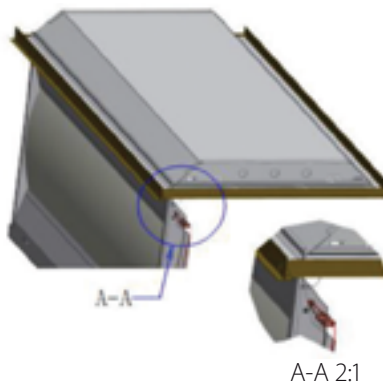

Fig. 1-5
- 4.) Wire the ground with a wire nut. Connect incoming power lines to fixture with provided disconnects. (Fig 1-5)